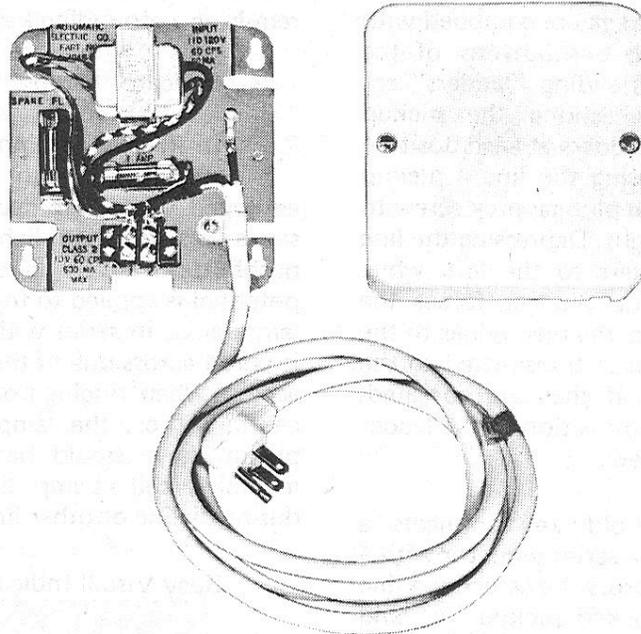

Figure 7. L-7048 Power Supply with Cover Removed.
2.24 The three lamp jacks adjacent to the hold keys are equipped with incandescent lamps. By use of an externally mounted L-7048 power supply (Figures 7 and 8), these lamps can be made to indicate a line busy condition. When a pickup or hold key on any of the interconnected sets is operated with the set in the off-hook condition, the lamps will light in the corresponding hold key position on all the interconnected sets, indicating that the associated line is busy.